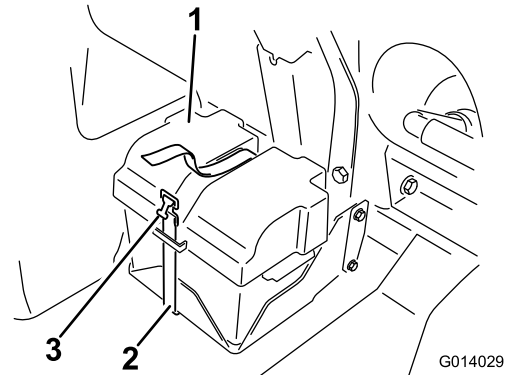

Figure 16
3. Remove the cover on the battery (Figure 16) and disconnect the negative battery cable.
- Use the strap to secure the cover to the battery box (Figure 16).